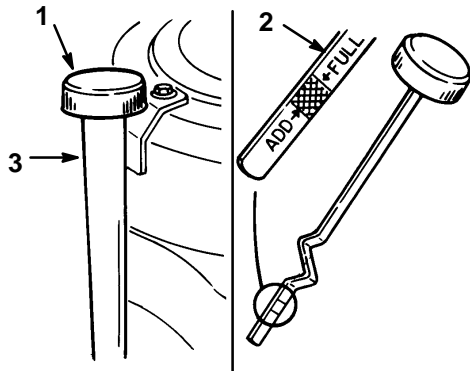

Figure 30
- Clean around the oil dipstick (Fig. 30) so dirt cannot fall into the filler hole and damage the engine.
- Unscrew the oil dipstick and wipe the metal end clean (Fig. 30).
5. Screw the oil dipstick fully onto the filler tube (Fig. 30). Unscrew the dipstick again and look at the metal end. If oil level is low, slowly pour only enough oil into the filler tube to raise the level to the “FULL” mark.
6. Slowly pour approximately 80% of the specified amount of oil into the filler tube (Fig. 30). Now check the oil level; refer to Checking Oil Level, page 29, steps 4–5.